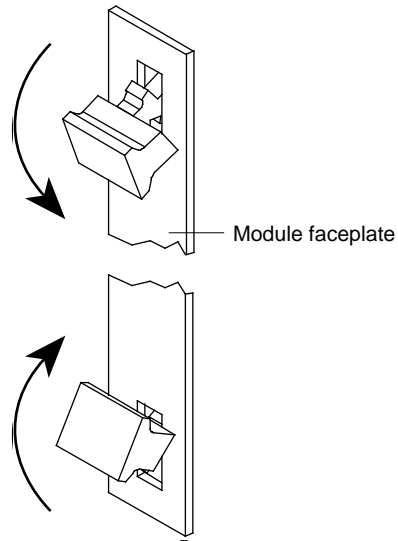

Figure 7 Handles in Inward (Inject) Position
- If the system is powered on, when the **Power/Unseat** LED on the panel's faceplate is yellow, inject the TRSM into the chassis by grabbing both ejector/injector handles and simultaneously push them inward. See Figure 7.
- 7** Relocate the inject handles back to their center position by gently pushing them inward. See Figure 7.